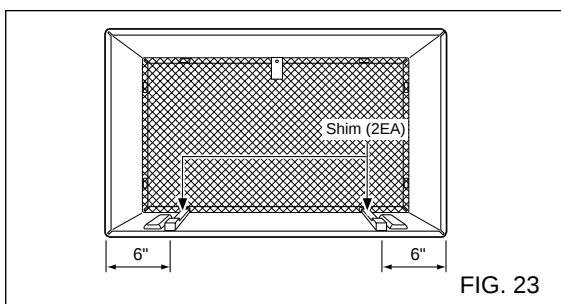

FIG. 23
- 7** To achieve rearward slope for unit draining, remove the backing from the $1\frac{13}{16}$ " shim strips and attach them as shown below in Fig. 23. The higher portion of shim is to be placed in front of the rib on the base of wall sleeve.